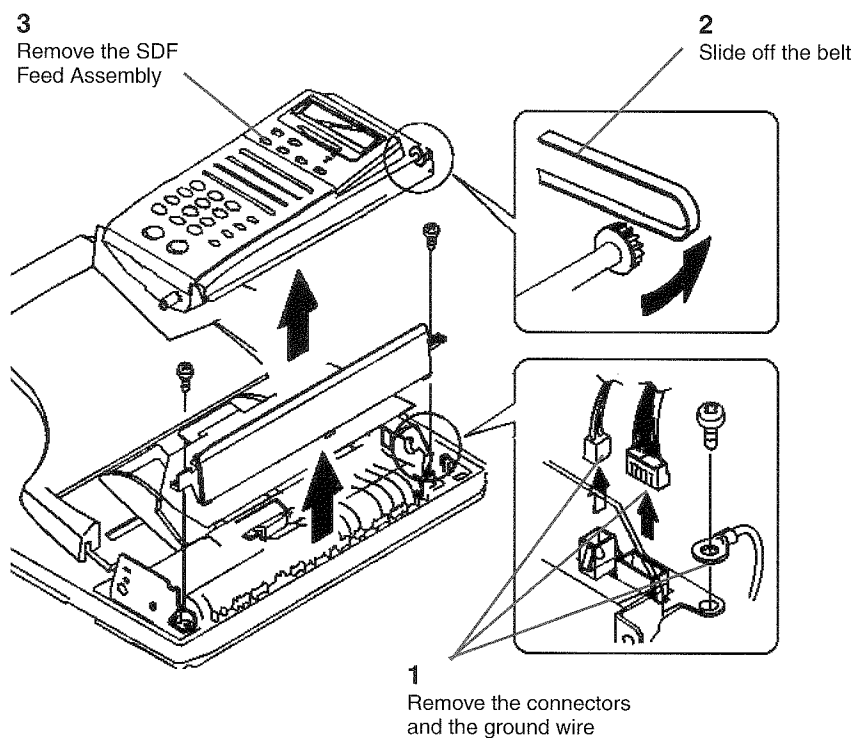

Figure 3 Removing the SDF Feed Assembly
3. (Figure 3): Remove the SDF Feed Assembly.